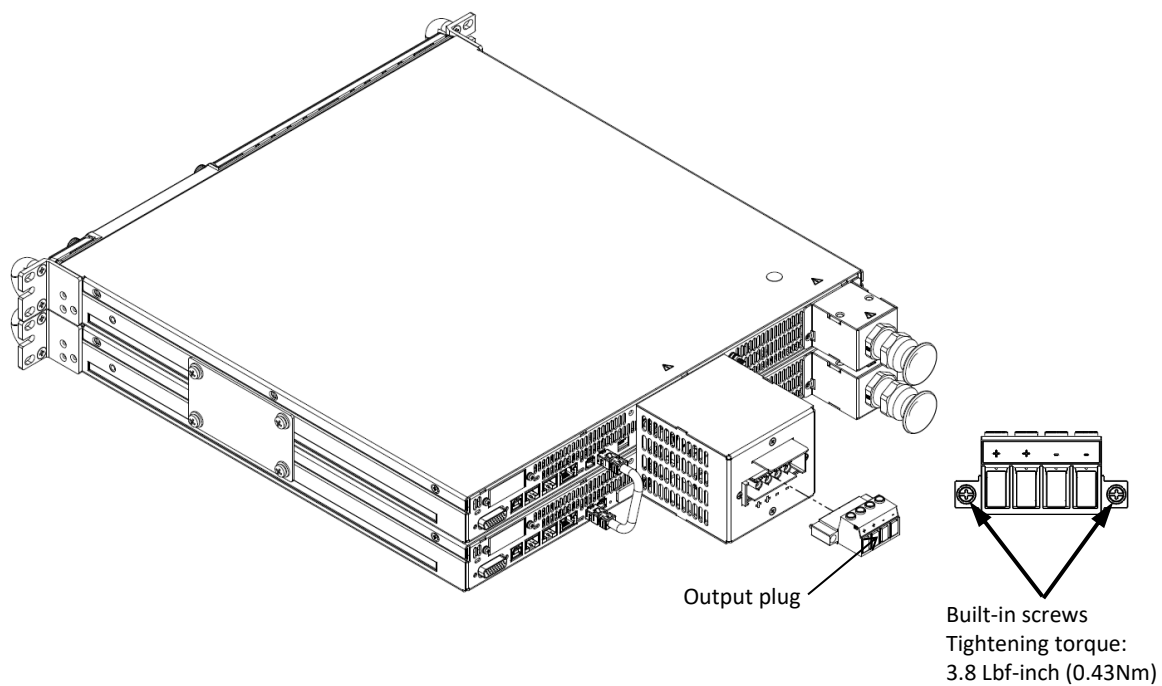

Figure 30: Output plug
8. To operate the power supply use the output plug and fasten it using its two built-in screws as illustrated in Figure 30.